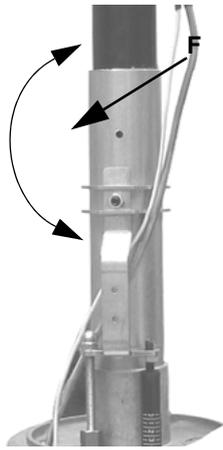
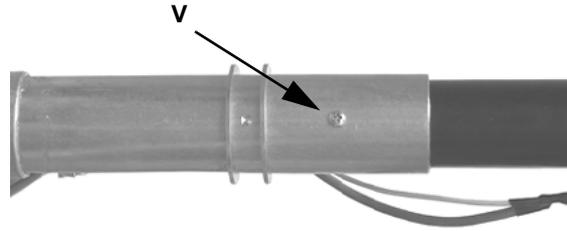

Fig. 20
Fig. 21
- 5 Take off the flange and the combustion head together (Fig. 20).
- 7 Unscrew the **V**, rotate the head of 180 ° along its axis as shown in Fig. 20), until the hole **F** is found. Fit the screw again (Fig. 20 - Fig. 21).